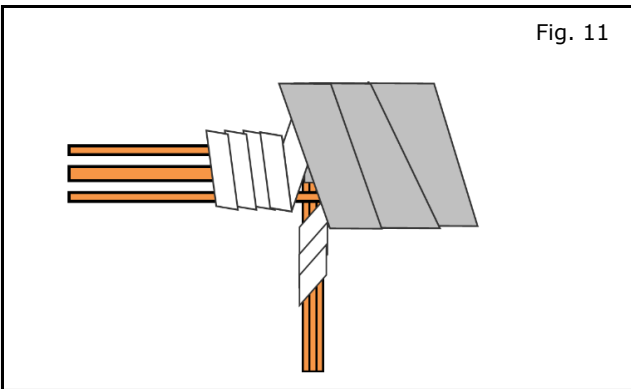

Fig. 11
a) Make sure the finished wrap looks similar to Fig. 11.